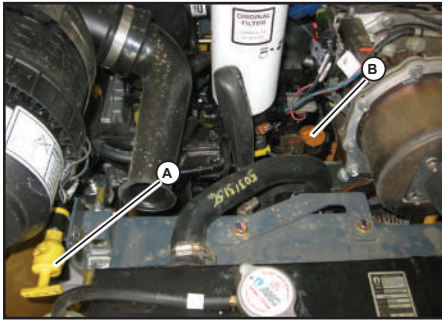

Fig. 62 - Oil Dipstick and Fill Cap
5. Pull out the dipstick (A, Fig. 62) and check the oil level. The oil fill cap (B, Fig. 62) is located nearby.